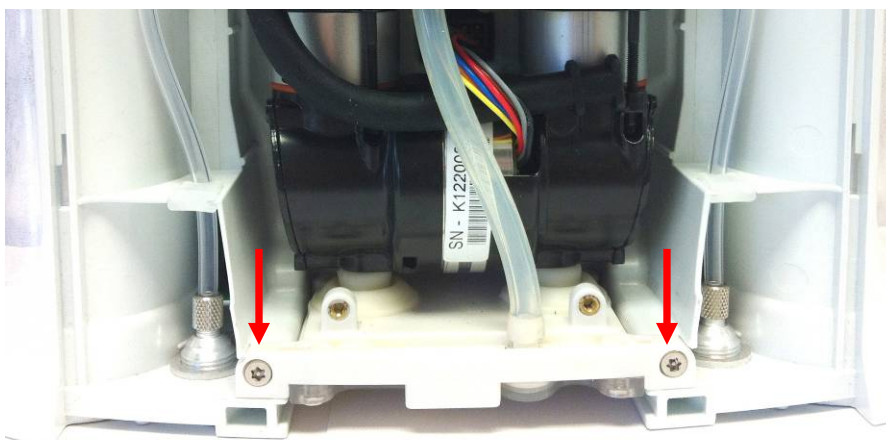

Figure 11: Location of front filter body screws
3. Lay the unit on its back side. Unscrew the two screws attaching the filter body to the chassis on the front side of the device (Figure 11).